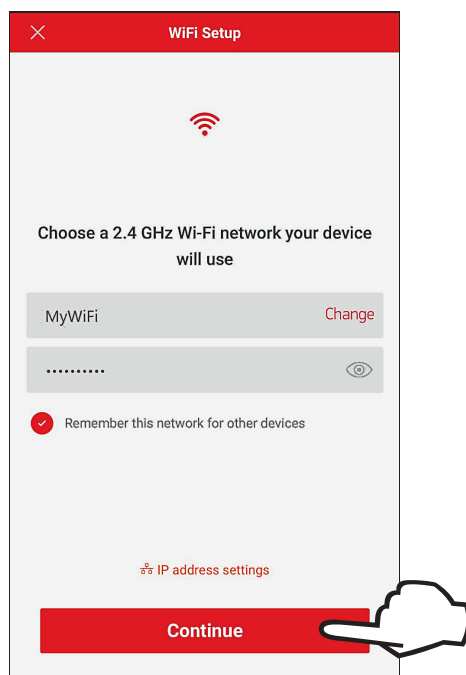

Figure 19. Wi-Fi Setup
- The "Wi-Fi setup" screen will appear. Select or enter the Wi-Fi network you want your unit to be connected to and enter the network password. See **Figure 19**.